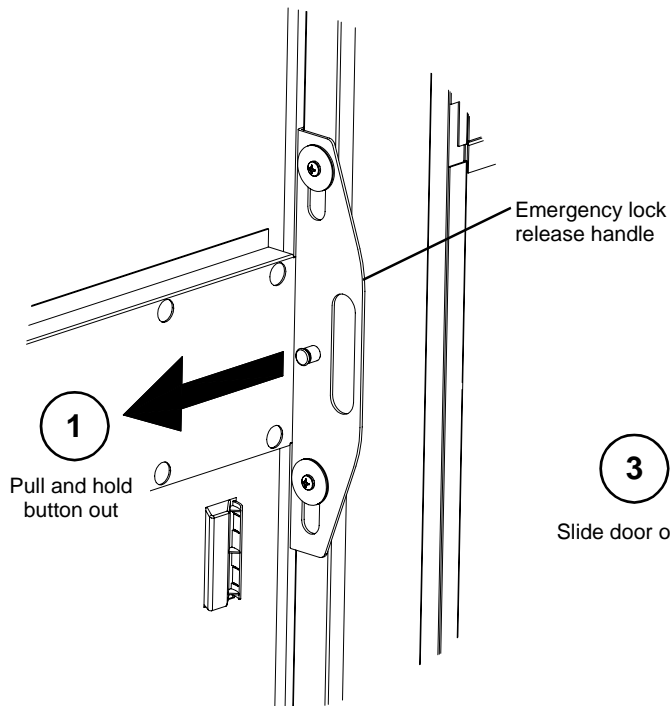

Figure 24
1. Pull and hold the safety release button out. See figure 24.